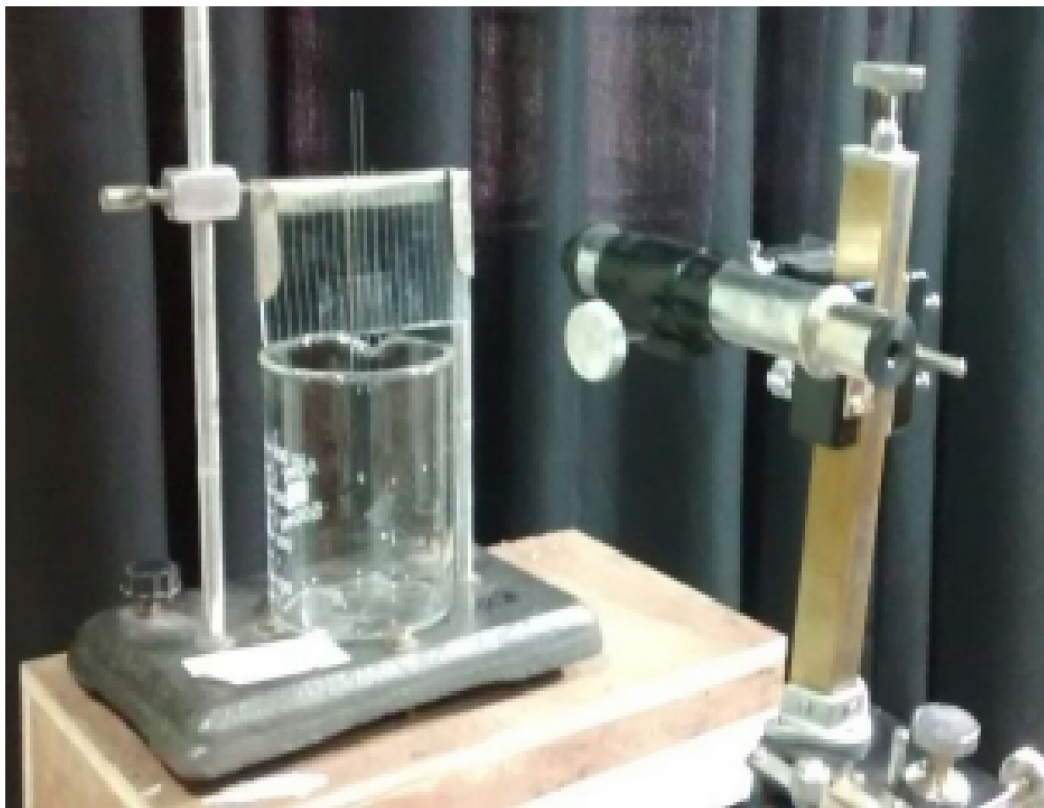

Figure 4: Set up for the determination of height “h” of water rise in a capillary tube
5. Clamp the glass strip vertically in an iron stand [Figure 4].
6. Place a clean flat bottom glass beaker on the (may or may not be adjustable) table and adjust the entire setup as shown in Figure 4.
8. Calculate the height h of water rise in the capillary tube above the water level in the beaker as shown in Figure 4.
10. Calculate the surface tension of water using Equation (7).